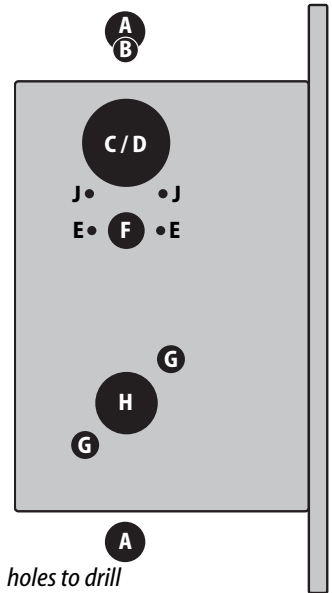

Figure 1 Identifying holes to drill
- 3 See the *Holes by Function* table and Figure 1 to determine the holes to be drilled for the lock function.